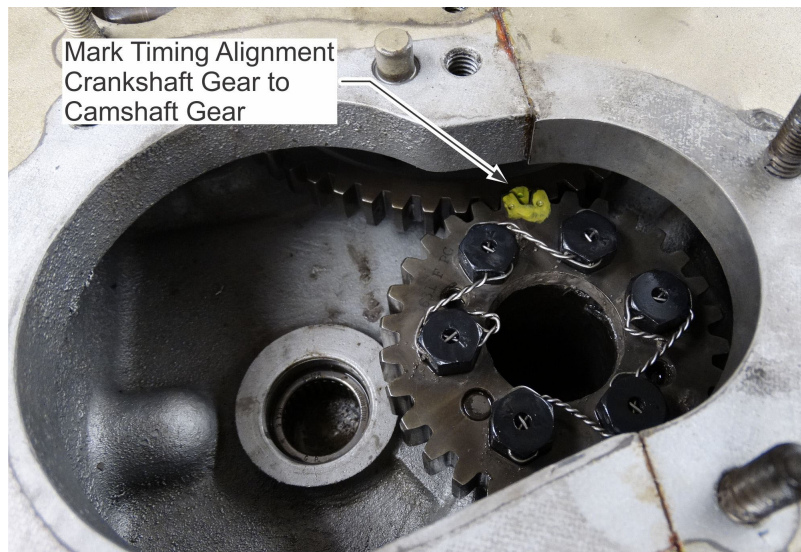

Figure 15. Camshaft Gear Timing Alignment Marked, Sandcast Crankcase
- b. With the crankshaft gear and camshaft gear (and cluster gear where applicable) in the timed position, mark the crankshaft gear and camshaft gear alignment (see Figure 15) and mark the bolt closest to the starter adapter mount opening to ensure correct alignment of the replacement camshaft gear.